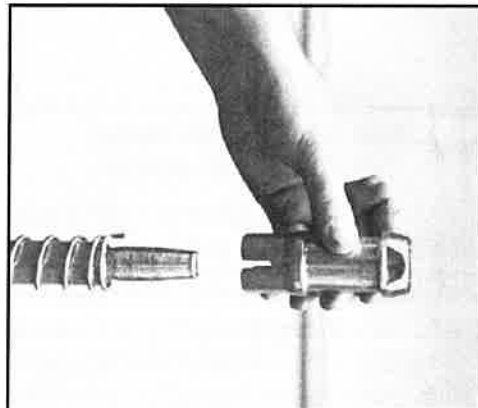

FIG. 44: REMOVE LOCK BUSHING AND SPRING
7. Remove lockpiece bushing and spring: Release spring torque by compressing spring toward front of control stud until spring tab is exposed. Allow spring to unwind (one half to three quarters of a turn) (see Fig. 44). Twist the lockpiece bushing one quarter turn counter-clockwise to slide it off the control tube.